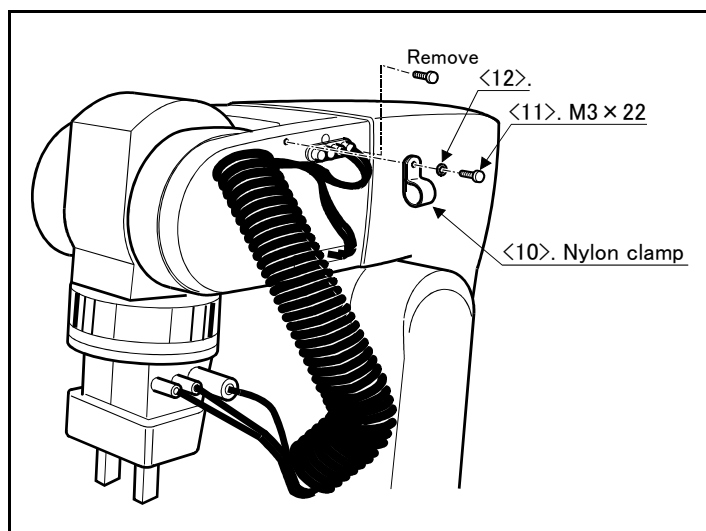

Fig.3-3 : Fix the air hand cable
- 5) Bundle the hand curl cable <7> and hand curl tube <9>. (Fig. 3-3)